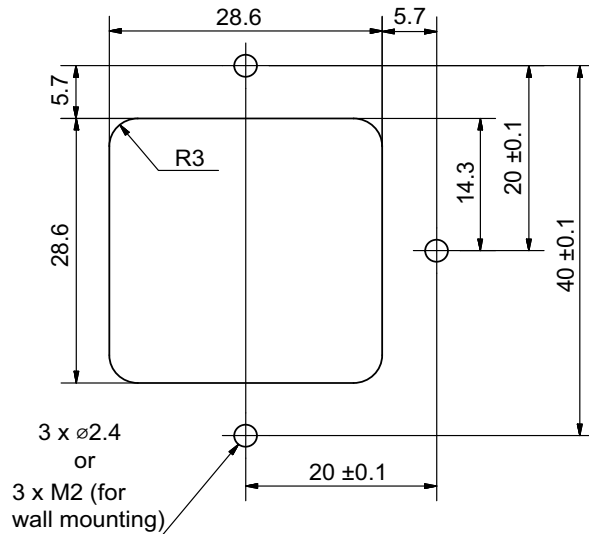
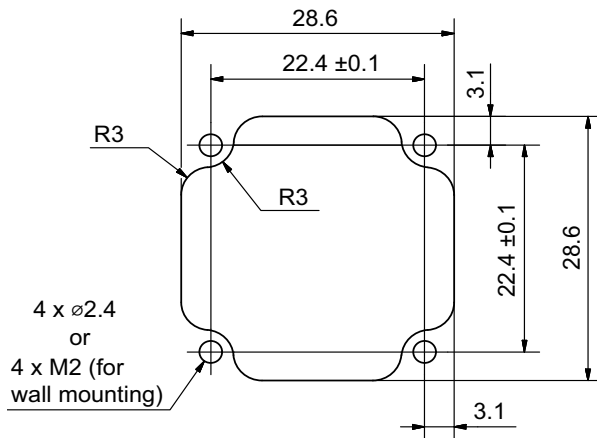

Fig. 3: Overview Drawing (in mm)
Fig. 5: Overview Drawing (in mm)
- Cut appropriate threaded holes (M2) into the wall for the bolts. For positions of the bolt holes, see Figure 3 to Figure 6.
- If you're using the I/O board, you will also need to create a recess in the wall to accommodate the I/O board, especially connector 2. For dimensions of this recess, see Figure 3 and Figure 5.
For dimensions of the opening, see Figure 3.
For dimensions of the opening and positions of the bolt holes, see Figure 5.